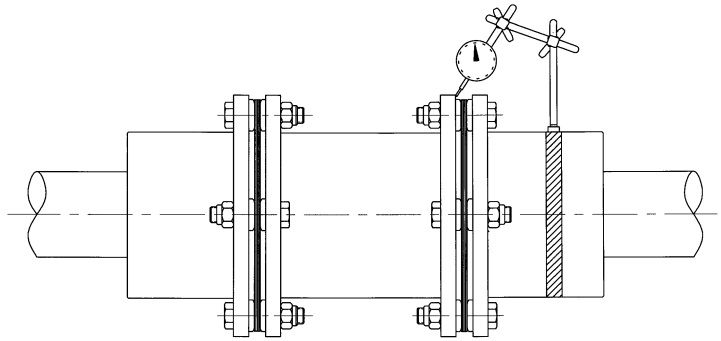

FIGURE 3
1. Attach a dial indicator to each hub. Indicate a point on the nearest spacer flange face as shown in Figure 3. Any method may be used to attach the dial indicator to the hub as long as it is firmly attached.